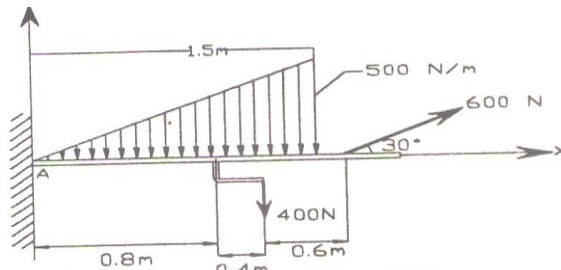

Figure 1
1. Estimate the supporting force system at the end A for the cantilever beam shown in Fig. 1. Neglect the weight of the beam.